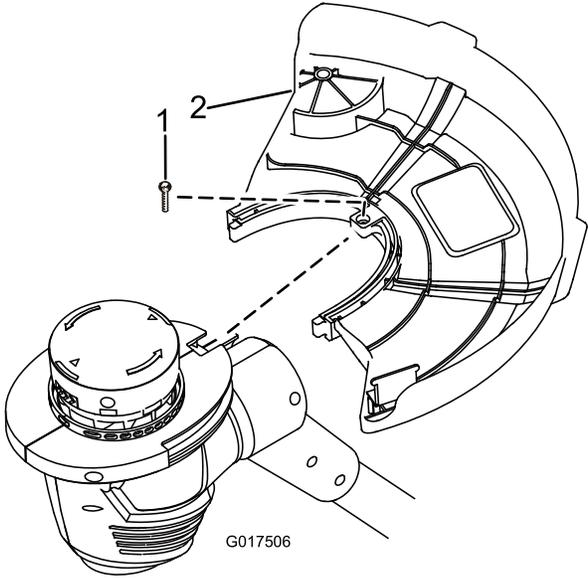

Figure 2
1. Remove the Phillips screw that is taped to the guard (Figure 2).
2. Slide the guard onto the trimmer base as shown in Figure 2.